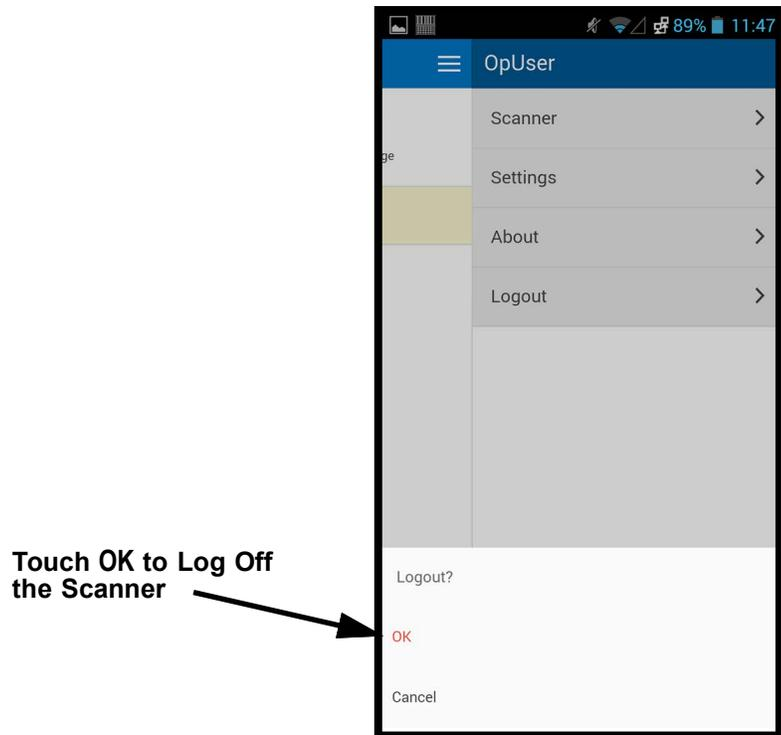

Figure 5-112. Cepheid Link Scanner Logout Dialog
11. On the scanner menu, touch **Logout**. The logout dialog will be displayed at the bottom of the screen. See Figure 5-112.
12. On the logout dialog, touch OK to log off the scanner (see Figure 5-112). The scanner Login screen will be displayed. See Figure 5-101.